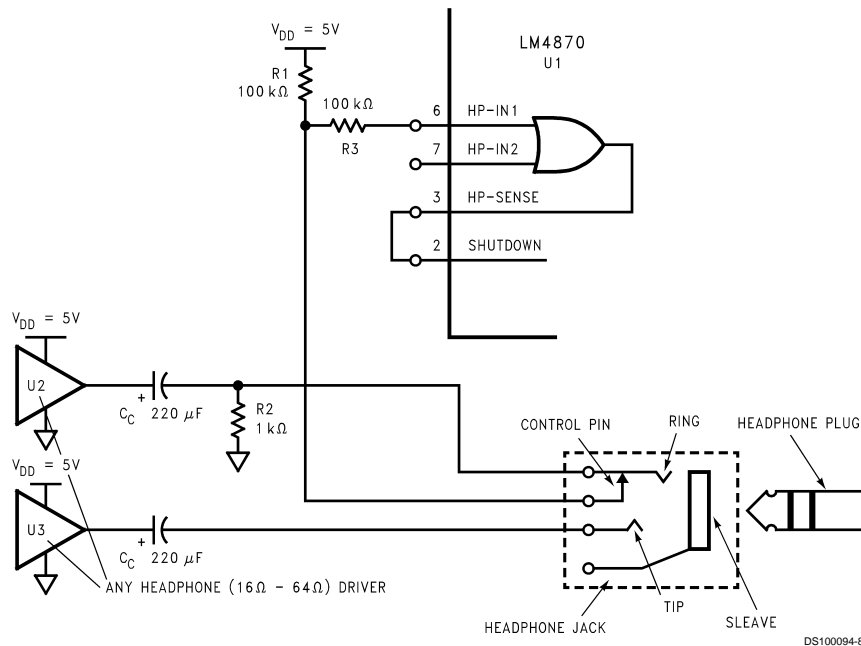

FIGURE 3. Typical Headphone Control Input Circuitry
*Figure 3* shows the implementation of the LM4870's headphone control function using a single-supply headphone amplifier. The voltage divider of R1 and R2 sets the voltage at the HP-IN1 pin to be approximately 50 mV when there are no headphones plugged into the system. This logic-low voltage at the HP-IN1 pin enables the LM4870 to amplify AC signals. Resistor R3 limits the amount of current flowing out of the HP-IN1 pin when the voltage at that pin goes below ground resulting from the music coming from the headphone amplifier. The output coupling cap protects the headphones by blocking the amplifier's half-supply DC voltage. The capacitor also protects the headphone amplifier from the low voltage set up by resistors R1 and R2 when there aren't any headphones plugged into the system. The tricky point to this setup is that the AC output voltage of the headphone amplifier cannot exceed the 2.0V HP-IN1 voltage threshold when there aren't any headphones plugged into the system, assuming that R1 and R2 are 100k and 1k, respectively. The LM4870 may not be fully shutdown when this level is ex-
When a set of headphones are plugged into the system, the contact pin of the headphone jack is disconnected from the signal pin, interrupting the voltage divider set up by resistors R1 and R2. Resistor R1 then pulls up the HP-IN1 pin, enabling the headphone function and disabling the LM4870 amplifier. The headphone amplifier then drives the headphones, whose impedance is in parallel with resistor R2. Since the typical impedance of headphones are  $32\Omega$ , resistor R2 has negligible effect on the output drive capability. Also shown in Figure 3 are the electrical connections for the headphone jack and plug. A 3-wire plug consists of a Tip, Ring, and Sleeve, where the Tip and Ring are signal carrying conductors and the Sleeve is the common ground return. One control pin contact for each headphone jack is sufficient to indicate to control inputs that the user has inserted a plug into a jack and that another mode of operation is desired.
For a system implementation where the headphone amplifier is designed using a split supply, the output coupling cap,  $C_C$  and resistor R2 of Figure 3, can be eliminated. The functionality described earlier remains the same, however.